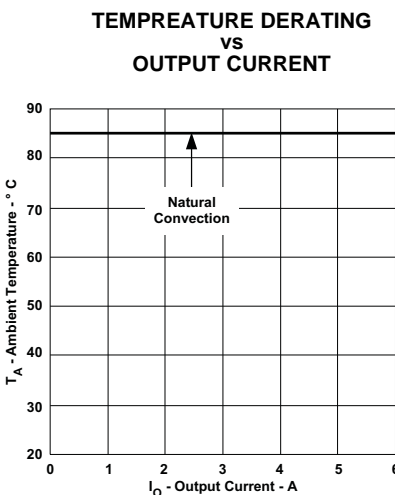

Figure 4.
- (2) SOA curves represent the conditions at which internal components are at or below the manufacturer's maximum operating temperatures. Derating limits apply to modules soldered directly to a 4 in. × 4 in. double-sided PCB with 1 oz. copper. Applies to Figure 4.